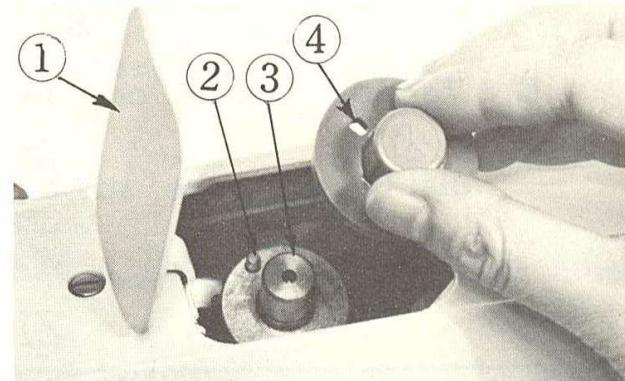

Fig. 25
Open the cam cover lid (①, Fig. 25). Move zigzag width control dial to "5" position. Hold the knob of pattern cam to be place, and insert it into the axle ③ so that the groove ④ of pattern cam put in the pin ②.